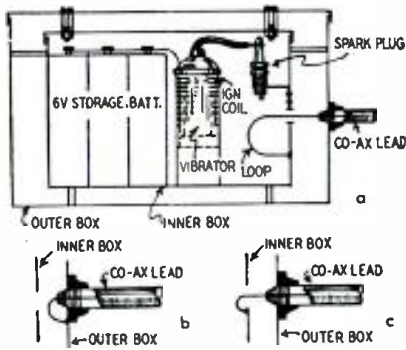

Fig. 2—Details of noise generator.
coil, a spark plug, and a 6-volt storage battery. These were mounted in a double metal box as shown in Fig. 2. Originally it was intended to vary the noise signal by altering the coupling of
1. Connecting the inner conductor of the co-axial to the outer box in a very small loop (Fig. 2-b).
2. Connecting it to the inner box in a small loop (Fig. 2-c).
3. Connecting as in Fig. 2-a with a large loop.